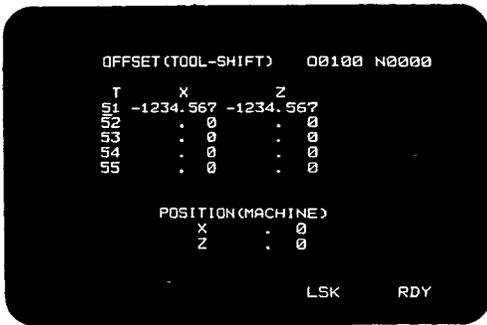

Fig. 5.10F Work coordinate system shift display screen
- (1) Perform manual zero point return.
- (2) Mount the workpiece.
- (3) Set "1" in the tool coordinate memory writing mode setting (6001 D6). This enables the writing mode. The screen then automatically switches to the "  " function OFFSET (TOOL - SHIFT) screen (Fig. 5.10F), to cause the "  " lamp to blink.
- (4) Select the cutting tool.